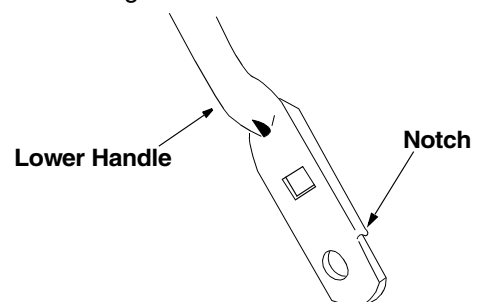

Figure 13
- Turn lower handle around so the notch on the bottom of the lower handle is facing forward. See Figure 13. Reassemble, placing the bottom holes in the handle over the weld pins in the handle mounting bracket. Refer to Figure 3. Replace wing nuts and carriage bolts.